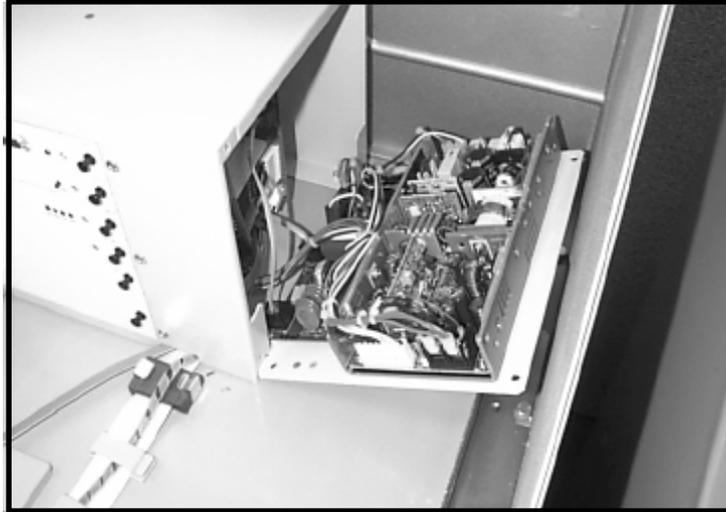

FIGURE 4-11
25. Disconnect the power cords from the side of the card cage. Open the right side of the card cage by removing the two top corner screws (See Figure 4-11.)